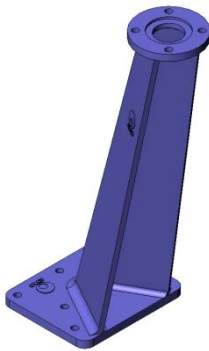

fig. 5
- Leaning floor stand (fig. 5)